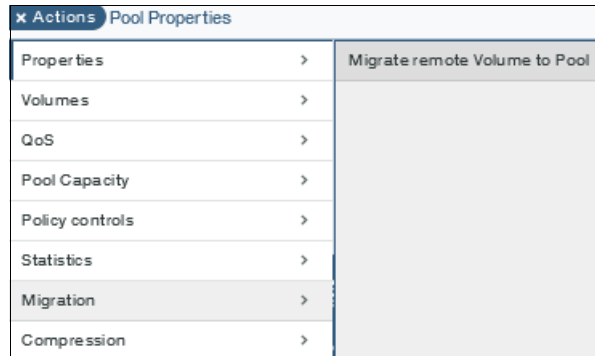

Figure 4-25 Selecting Migration in IBM FlashSystem A9000
1. In the Hyper-Scale Manager GUI, select the pool to use for the migrated volumes and then select **Actions** → **Migration** → **Migrate remote Volume to Pool**, as shown in Figure 4-25.